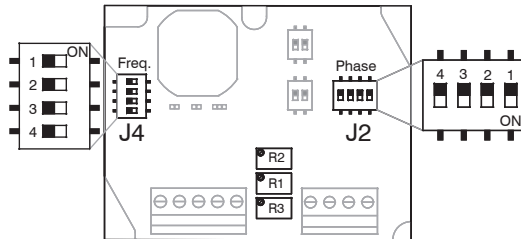

Fig. 11 Controller electronics, DIP switch for frequency (J4) and phase (J2)
| <p>Plunger resp. the sensor can be adjusted mechanical during the settings (example A, see Chap. 5.3.)</p> <ul style="list-style-type: none"> ➡ 4a: Move switch S1 at J3 to OFF and S2 at J3 to ON, see Fig. 12. <p>Initially the plunger is situated outside of the sensor.</p> <ul style="list-style-type: none"> ➡ 5a: Set the desired output signal with R1 for the sensor in middle-position, see Fig. 11. ➡ 6a: Move plunger in middle position and move until the desired output signal is reached (see 5a). <p>Magnetic core is in middle position (electrical and mechanical zero point of the sensor).</p> <ul style="list-style-type: none"> ➡ 7a: Displace plunger respectively the sensor into desired end position, use R3 to set the amplification. ➡ 8a: Displace the plunger resp. the sensor to the position as described in 6a. Readjust output signal with R1 to the value defined in 5a. ➡ 9a: Move plunger again into desired end position and readjust the amplification with R3. <p>End of setting.</p> | <p>Plunger resp. the sensor is fixed to the target during the settings (example B, see Chap. 5.3).</p> <ul style="list-style-type: none"> ➡ 4b: Move switch S1 and S2 at J3 to ON, see Fig. 12. ➡ 5b: Set the desired output signal with R1 for the start position, see Fig. 11. ➡ 6b: Move switch S1 and S2 at J3 to OFF. ➡ 7b: Displace the plunger resp. the sensor to the start position. Use R2 to set the output to the same value as in point 5b, see Fig. 11. ➡ 8b: Displace the plunger resp. the sensor to the end position and use R3 to set the desired signal for the end position. <p>End of setting.</p> | |
The frequency of the oscillator is set with the 4-pole DIP switch J4 (for the position on the board, see Fig. 11). The phase is set with J2, see Fig. 11.
- ➡ Adjust the output to 6.00 VDC respectively 12.00 mA (current output) with R1, see Fig. 11.
- Adjust the output to 2 VDC respectively 4 mA with R1, see Fig. 11.